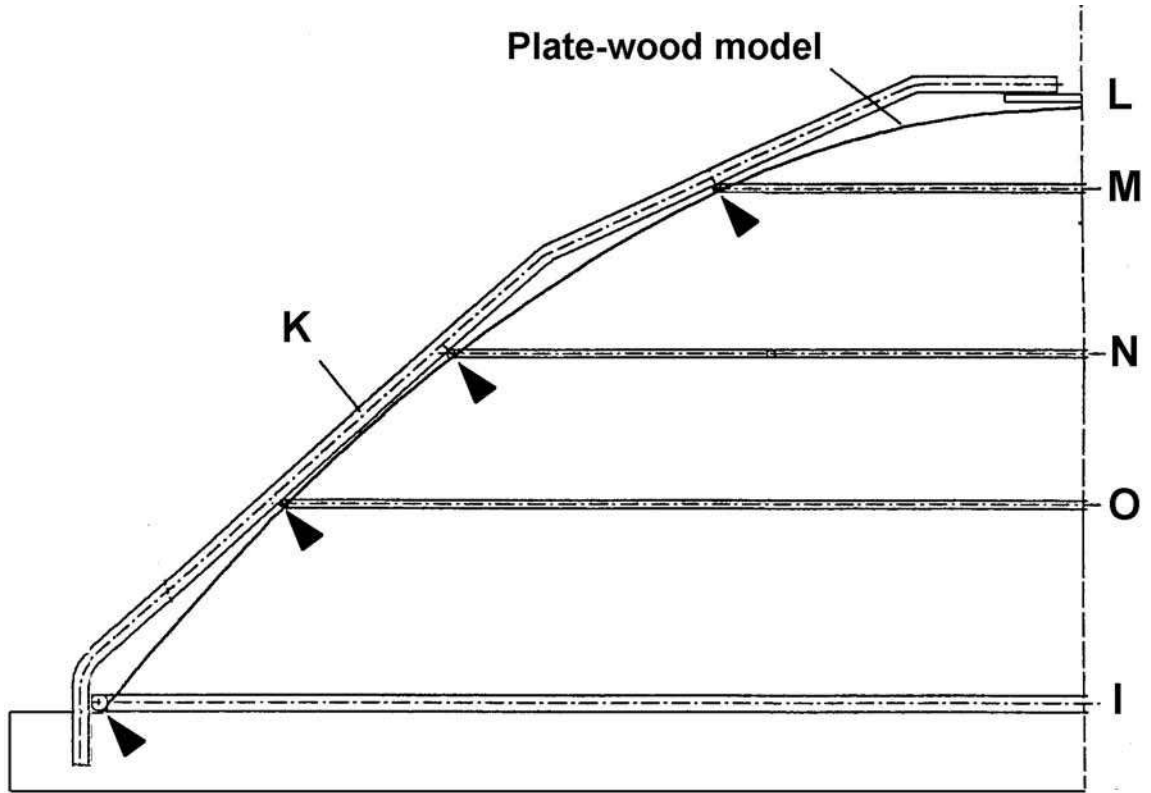

Figure 7: Connection bar K perfectly attached to the circles on the wood model
9. Cut seven pieces of 90 cm length and \varnothing 12 mm for the ring connection bars (part K). First bend only one bar according to figure 7. Then try it out at the wood-model with the rings. The connection bar has to touch all the 4 circles and the sheet metall without any force and without moving the rings! Normally several little corrections of the bending angles are needed until it fits.
10. Take one connection bar after the other, make corrections until the bar fits nicely (see figure 7), put it in one position marked on the largest ring and fix the connection bar with iron wire and pincers. Be very carefully not to move the ring during the twisting of the wire!